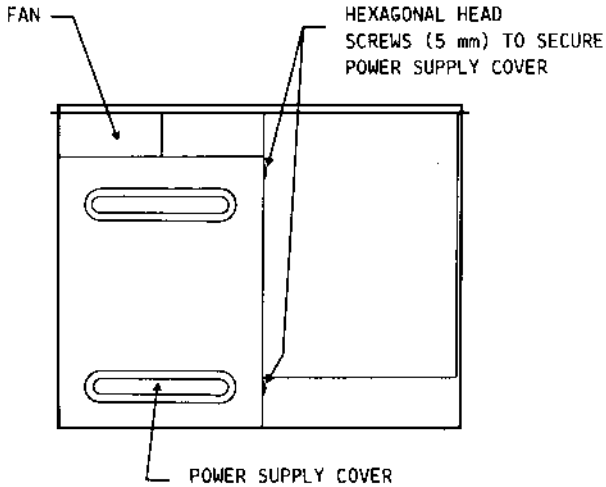

Fig. 4-3 Internal View of the ELB 3684
- Remove the cover of the power supply; figure 4-3 shows how it is secured